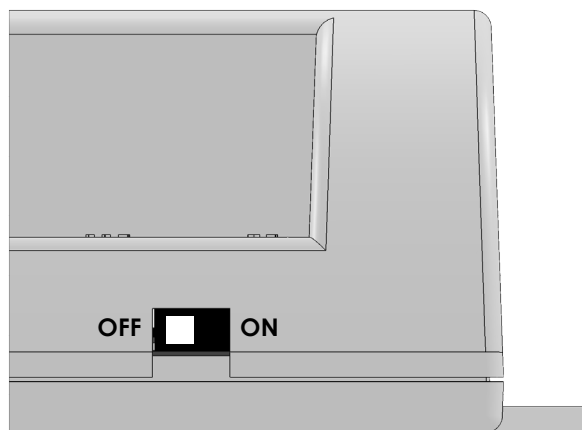

Figure 8.7: Dependent Cascade Boiler Control Switch Position
- iii. Number of Units (147) must match the total number of boilers in the cascade system, including the managing boiler. If any of the expected number of dependent boilers is not present, the control will generate a “Comm. Lost with module” (200) warning error.
d. Once a boiler is configured as a dependent boiler, the control switch, shown in Figure 8.7, must be in the OFF position to operate.